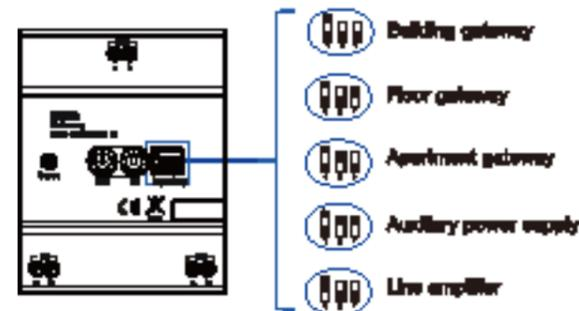

Fig.105
- Floor gateway** - address is equal to the minimum address of the indoor station inside the sub-system. Fig.105